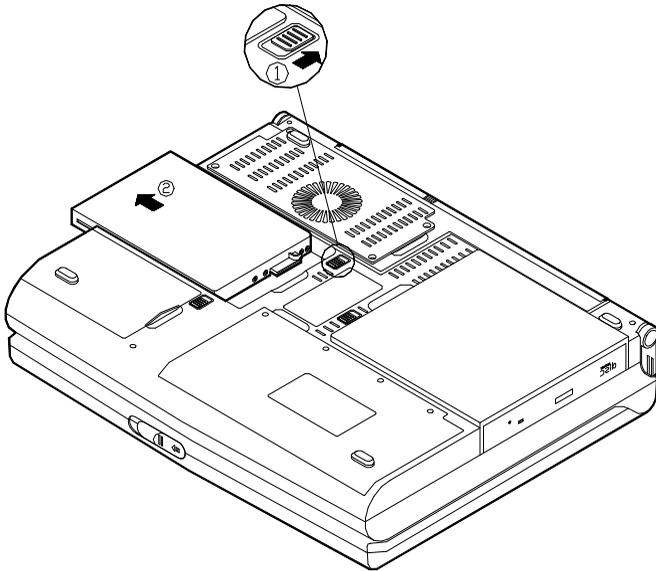

Figure 2-11
- 3** Press the floppy-disk-drive latch (do ①) and pull the floppy disk drive out of the computer (do ②) (Figure 2-11).